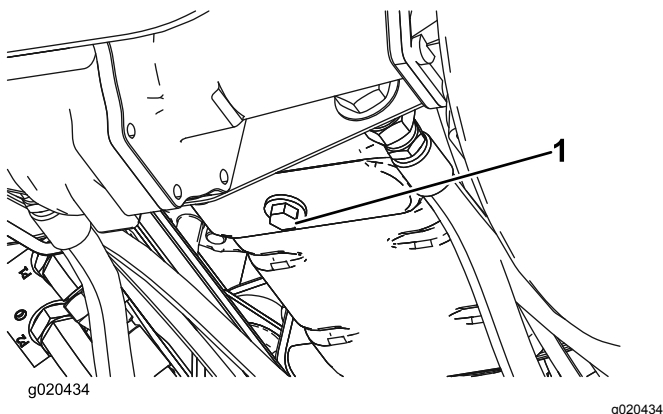

Figure 75
1. Remove the drain plug (Figure 75) and let the oil flow into a drain pan. When all the oil is drained, install the drain plug.